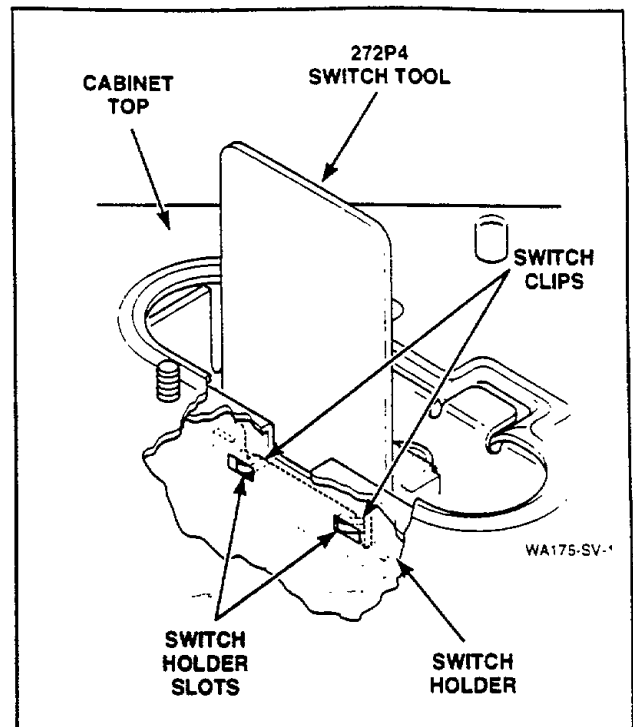

Figure 44
- Carefully place switch down into switch holder, *Figure 44*; line up the switch clip tabs with the slots in the switch holder, *Figure 44*.